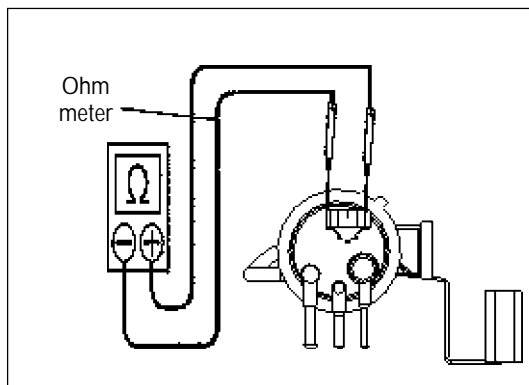

Figure 3-4
(1) Check whether the resistance of the fuel pump is 0.2~3.0 ohm_s at 20° C. If not, replace the fuel pump (see Figure 3-4).
(2) Fuel oil pump running: